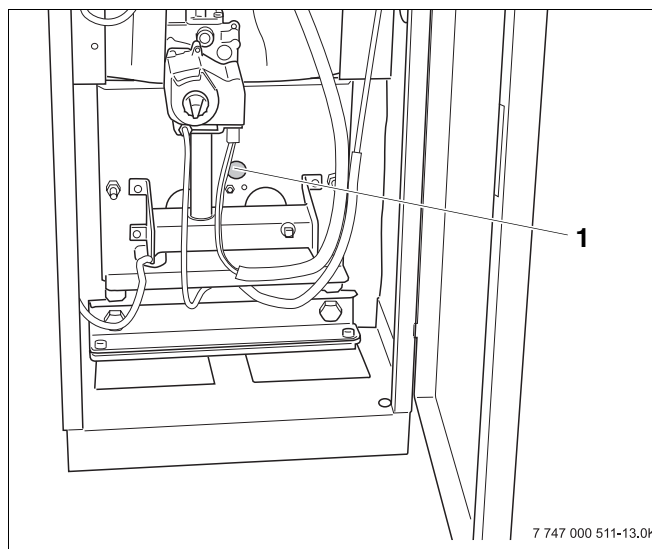
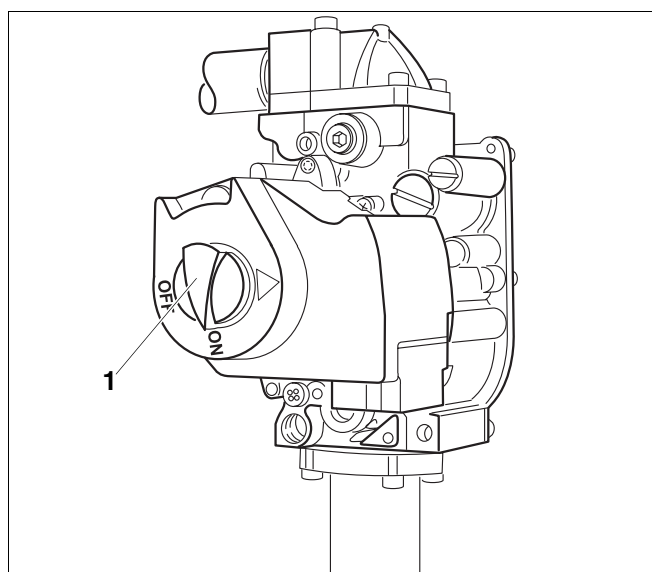

Fig. 22 GC124 II boiler
Fig. 26 GC124 II gas valve
8. Observe main burner flame through the sight glass (→ Fig. 22, page 30) in the burner plate. The flame must show a steady and stable body and generally be of bluish color. If the main burner flame meets the requirements, proceed to step 9. If the main burner flame is weak, yellow, or goes out, turn the ON/OFF knob (→ Fig. 26) on the gas valve clockwise to OFF. Close the gas shut-off and disconnect the heating system from the main power source and contact the customer service technician or the gas company.